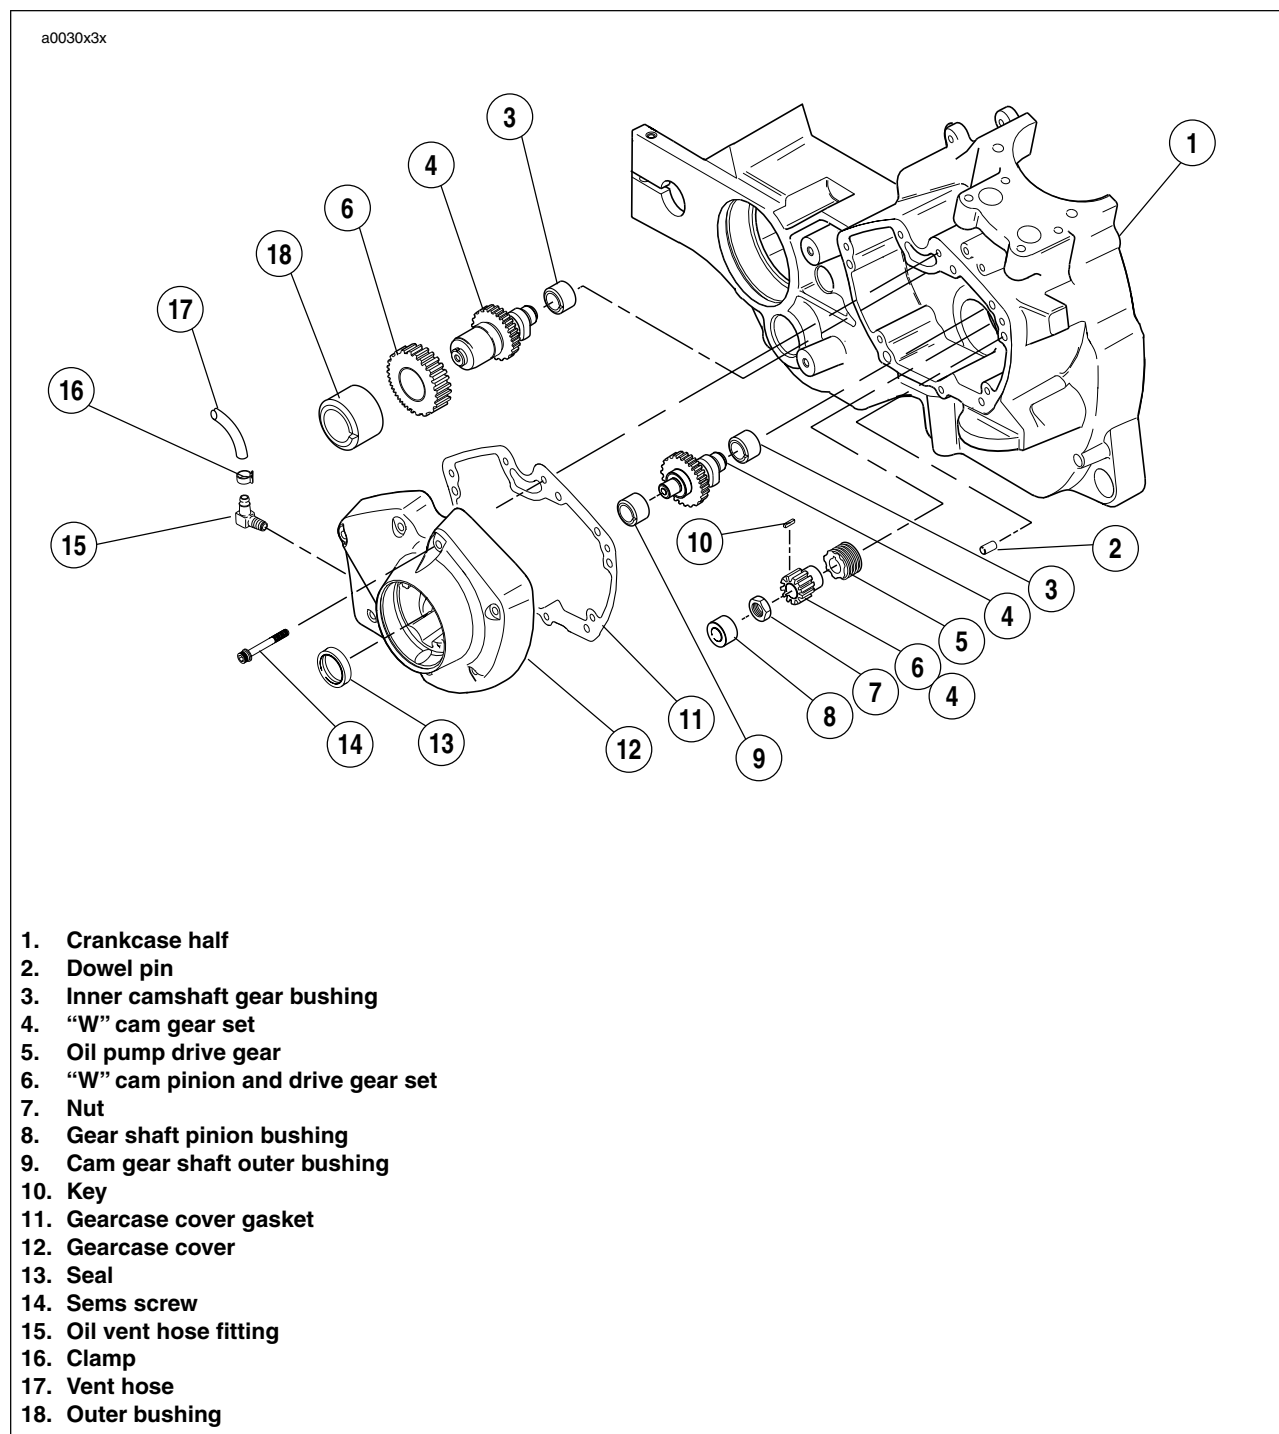

Figure 3-103. Gearcase Cover & Cam Assembly
1. See Figure 3-103. Thoroughly clean area around gearcase cover and tappets. Blow loose dirt from crankcase with compressed air.
- See Figure 3-103. Bushings are press fit in crankcase and gearcase cover. Inspect each bushing against its corresponding cam gear shaft or pinion gear shaft. See Table 3-30.
- See Figure 3-103. Liberally apply engine oil to bushings, shafts, and gears. Install all cam gears into bushings of right crankcase half, properly aligning timing marks of cam gears and pinion gear.
- See Figure 3-103. Install a **new** seal and **new** dry gear cover gasket on crankcase.